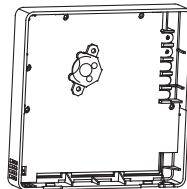

Fig. 8 — Battery Installation
- a. Put the battery in the installation site. Ensure the positive side of the battery is in accordance with the positive side of installation site (see Fig. 8).